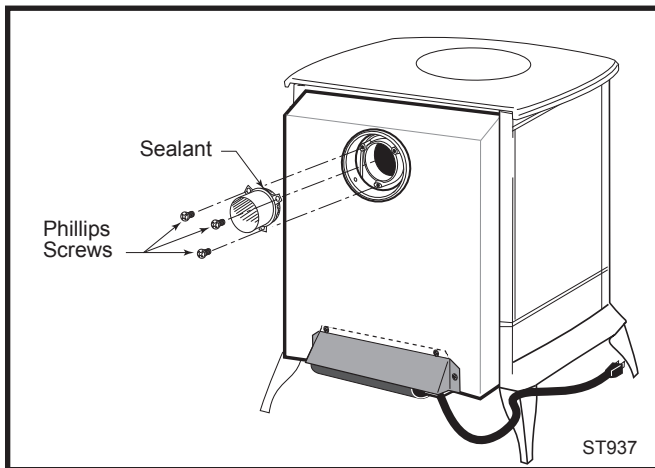

Fig. 17 Apply sealant to the starter pipe, and fasten to stove with Phillips screws.
- Run a bead of sealant beneath the pipe bead and attach to the stove using three 1/4-20 x 3/8" phillips screws provided in the parts bag. (Fig. 17)